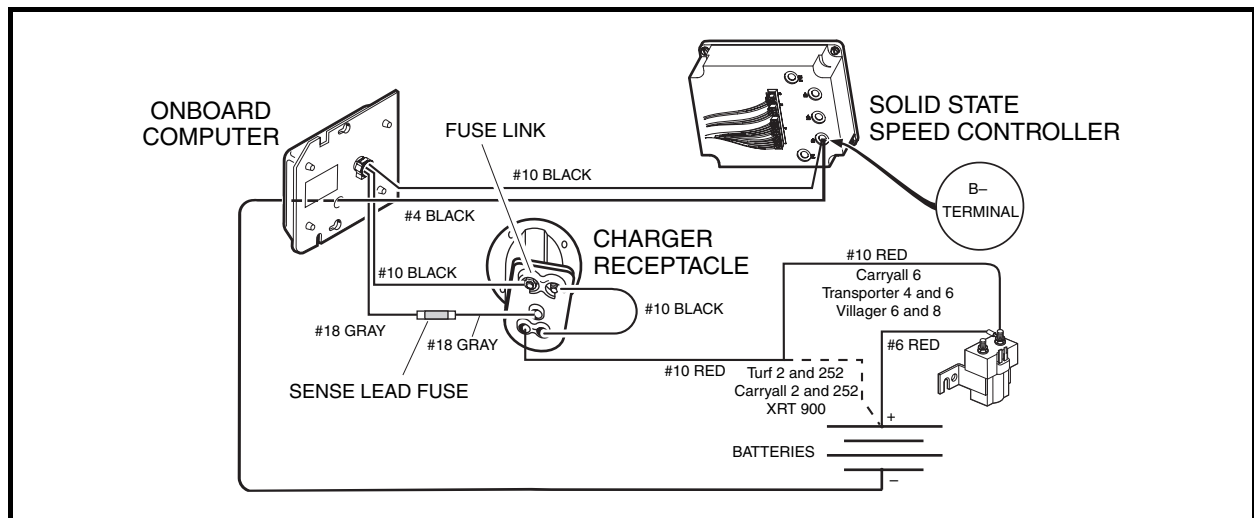
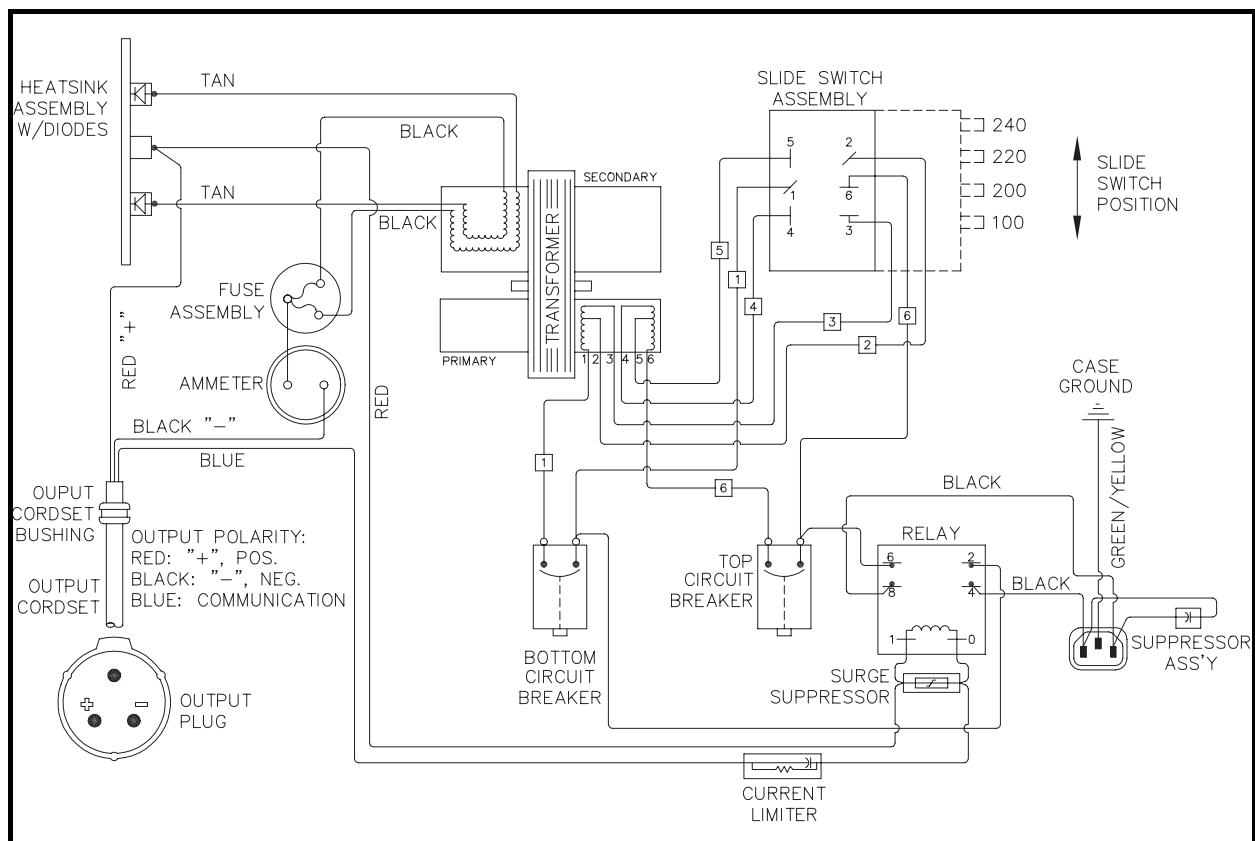

Figure 5-2 Charge Circuit
Figure 5-6 Export IQ Plus Battery Charger Wiring Diagram (External Charger)
If the charger works with one vehicle, but does not work with another vehicle, then most likely the problem is in the vehicle charge circuit. Check the connections between the 18-gauge gray wire from the charger receptacle, the sense lead fuse, and the 18-gauge gray wire from the onboard computer. Also check connections of the fuse link located on the charger receptacle (**Figure 5-2, Page 5-3**).
3. If the charger does not operate exactly as described above, refer to the wiring diagram and make sure that the vehicle is wired correctly (**Figure 5-2, Page 5-3**) and that the internal charger wiring is correct (**Figure 5-6, Page 5-9**).
- Knowledge of battery charger wiring and component terminology is required before attempting any repair (Figure 5-6, Page 5-9).